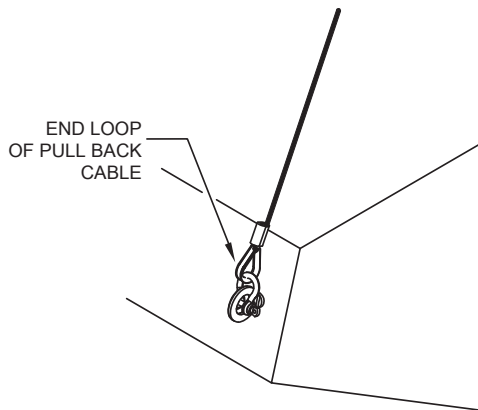

Figure 3
Step 3: Attach the end loop of the pull back cable to the other rear suspension point (such as eyebolts, track fitting, etc) of the loudspeaker using supplied shackles (Figure 3).